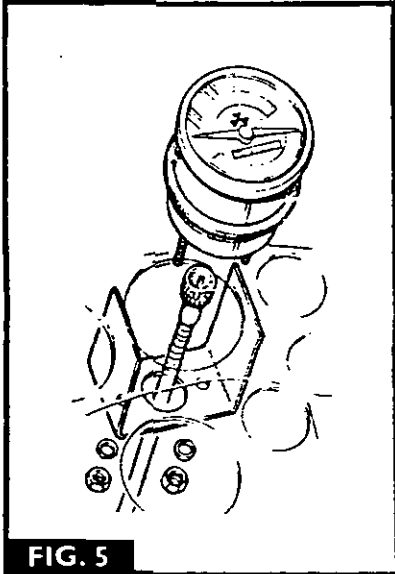

FIG. 5
2. Fig. 5. Disconnect the tractorometer drive cable from the back of the tractorometer.